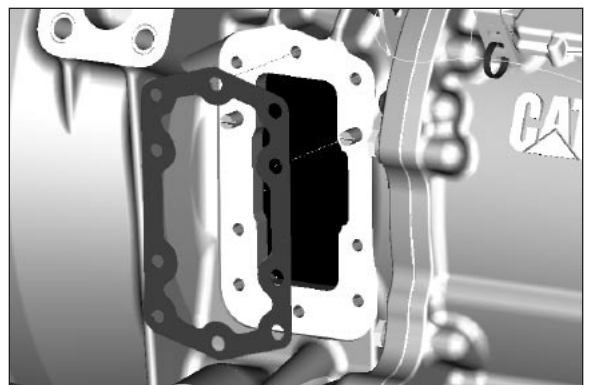

Fig. 4
4. Install the special gasket over the guide pins. The ribbed surface should face outward, toward the installer (**Fig. 4**).